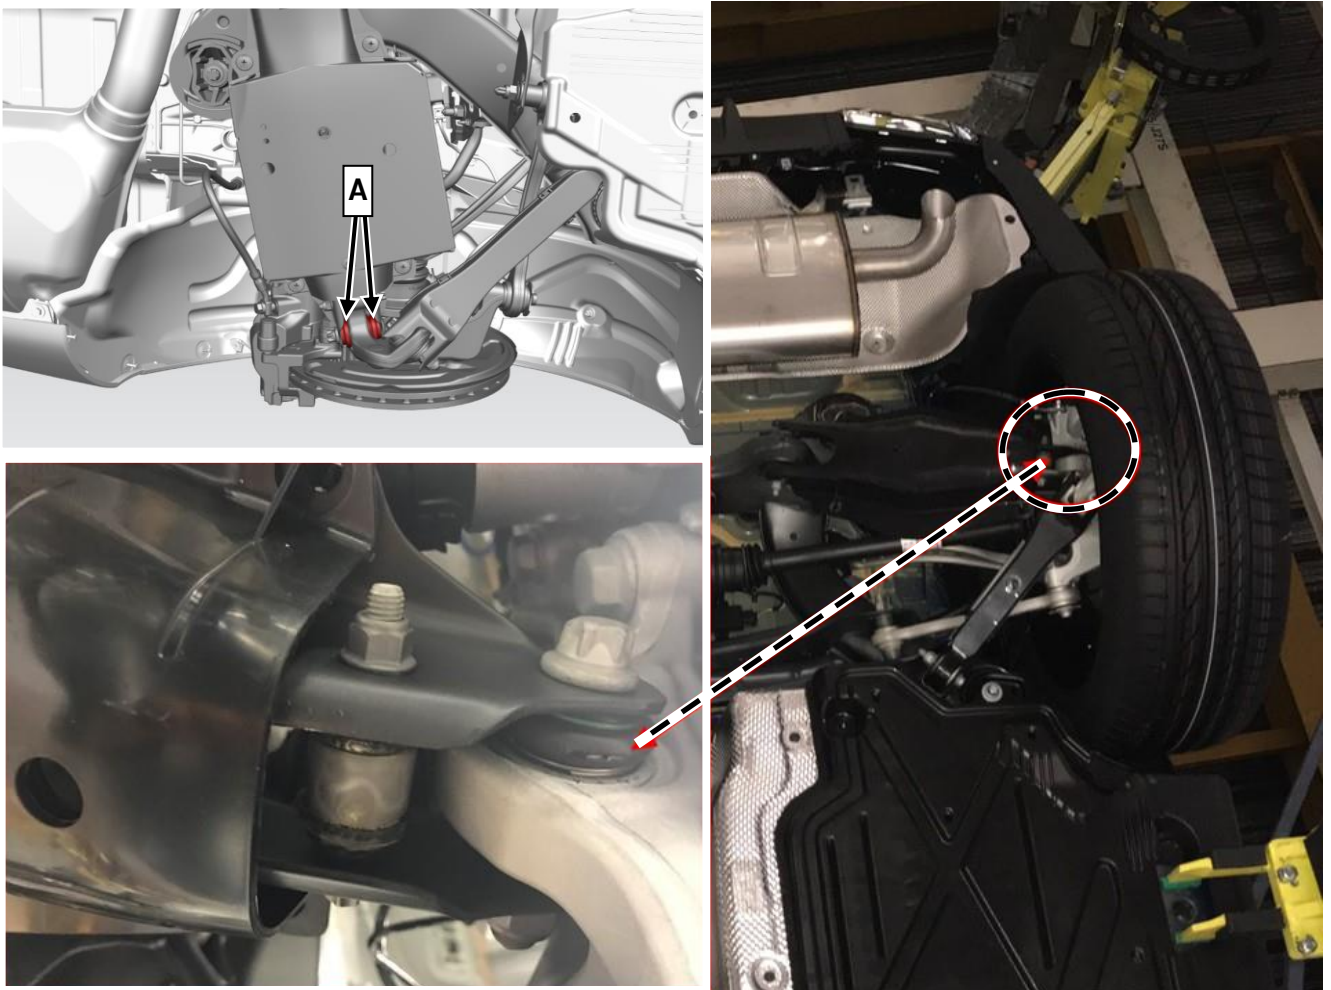

Figure 1 (Shown on right side)
1. Lift vehicle on vehicle lift and check both seal bellows (A, figure 1) of supporting joint in left and right wheel carrier for damage. The test shall be performed on the right and left wheel carrier.